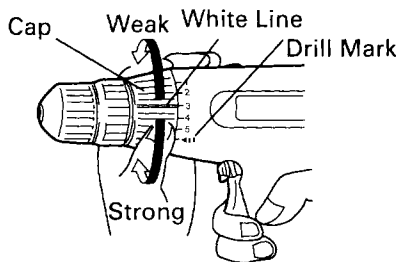

Fig. 12
Set the cap's white line between "1" and "3" on the housing. (Fig. 12)
- For use as a drill, set the white line at the drill mark "🔧". (Fig. 12)
Tightening power must be changed according to the screw type, screw size and the materials to be tightened. The amount of tightening power is indicated by the numbers "1", "2", "3", "4", and "5" located on the housing. "1" is the minimum tightening power. "5" is the maximum tightening power. (Fig. 12)